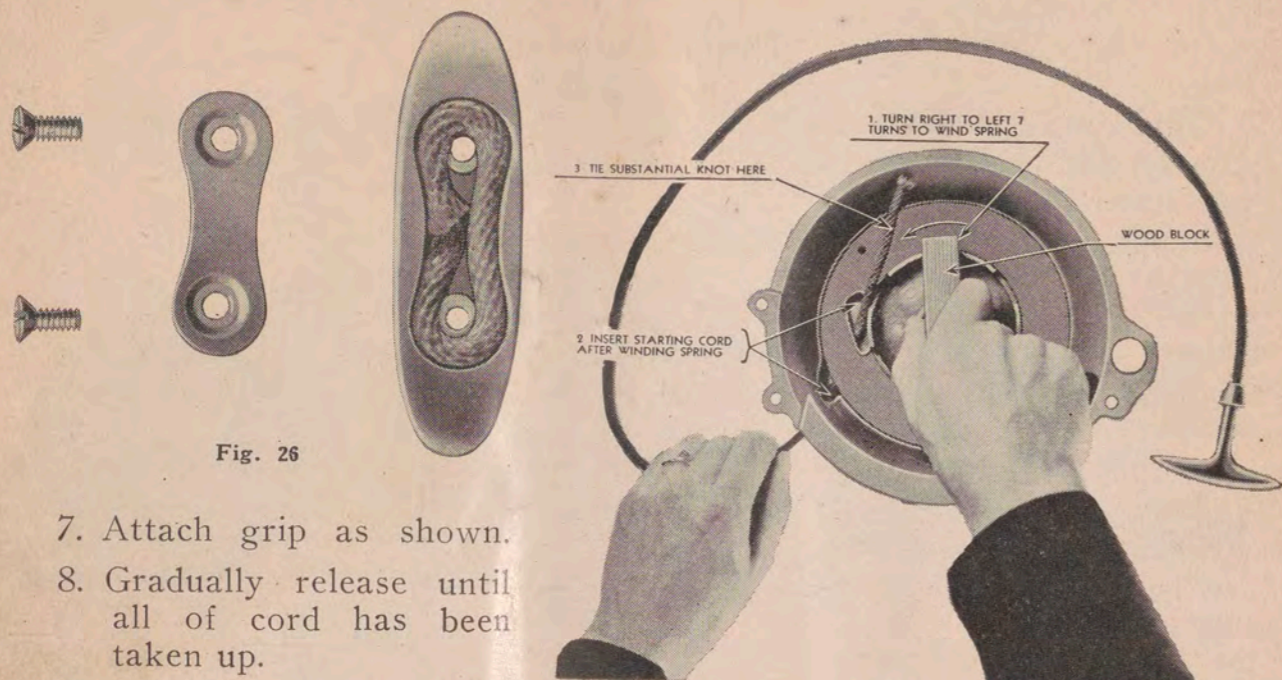

Fig. 26
3. Obtain new cord. Attach grip as shown Fig. 26. Cord should be 72" long. Use only the special cable provided by the manufacturer.
There are two adjustments—High and Low speed. Fig. 26-A.